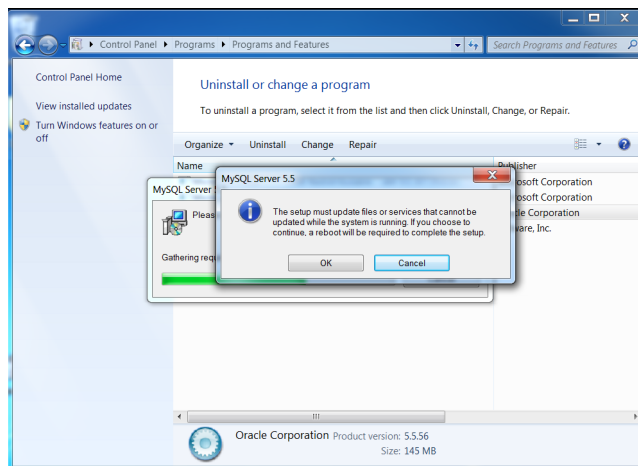

Figure B4
4. Select "MySQL Server 5.5" and click Uninstall. Click OK. (Figure B4)